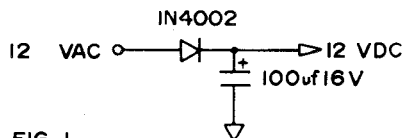

FIG. 1
ceed 30VDC. To determine the approximate value of the resistor (in Kohms) use the following formula:  $R = (V - 22) / 8$ . A two watt resistor should be sufficient for voltages up to 200VDC. Refer to figures 1, 2, 3 for additional information. If polarity is reversed to the unit, it will not operate but will not be damaged. Use the following as a guide for obtaining proper operating voltage in different environments:
- Bases—use appropriate figure 1, 2, 3.